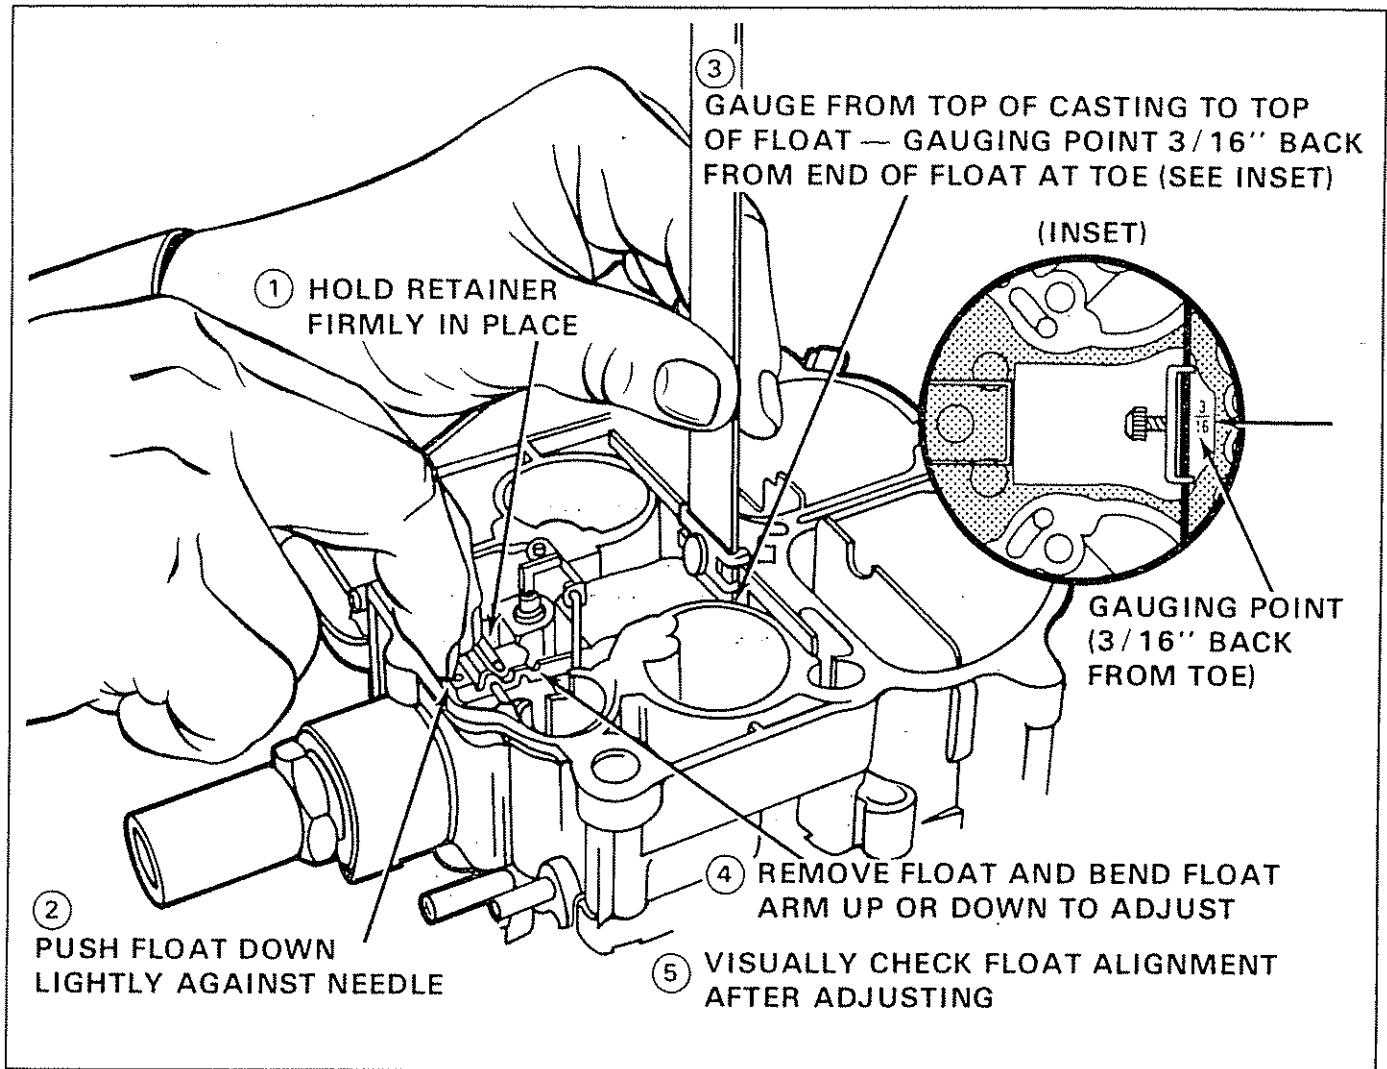

Fig. 6C2-65--Float Level Adjustment
- c. With adjustable T-scale, gage from top of float bowl casting (air horn gasket removed) to top of float - gauging point is 3/16" back from end of float at toe (See inset - Fig. 6C2-65).